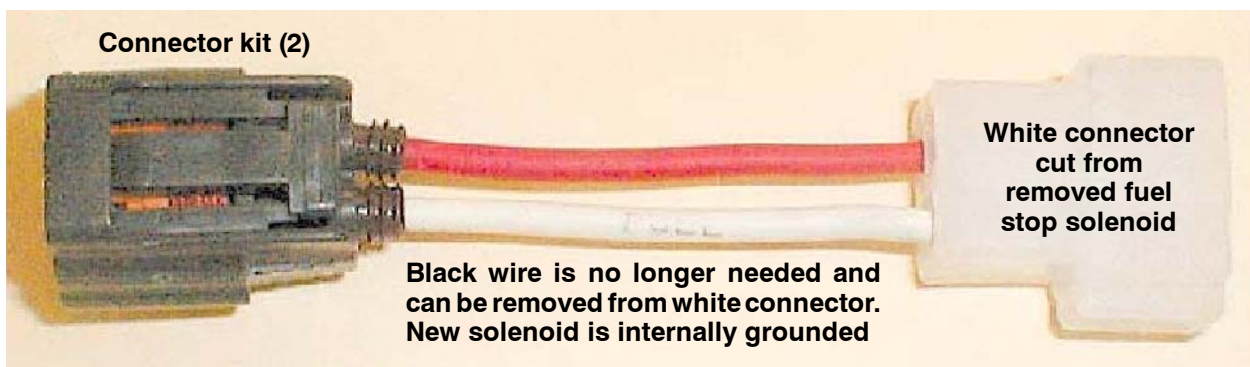

FIG. 3
8. Remove the black wire from the white connector. The black wire is no longer needed since the new stop solenoid is internally grounded. Refer to Fig. 3.
9. Install the stop solenoid connector (2) onto the wires from the white connector. Since the circuit polarity is sensitive, be sure to install the stop solenoid connector exactly as shown. Refer to Fig. 3.
10. Plug the harness from the previous several steps into the machine wire harness and the stop solenoid (1).